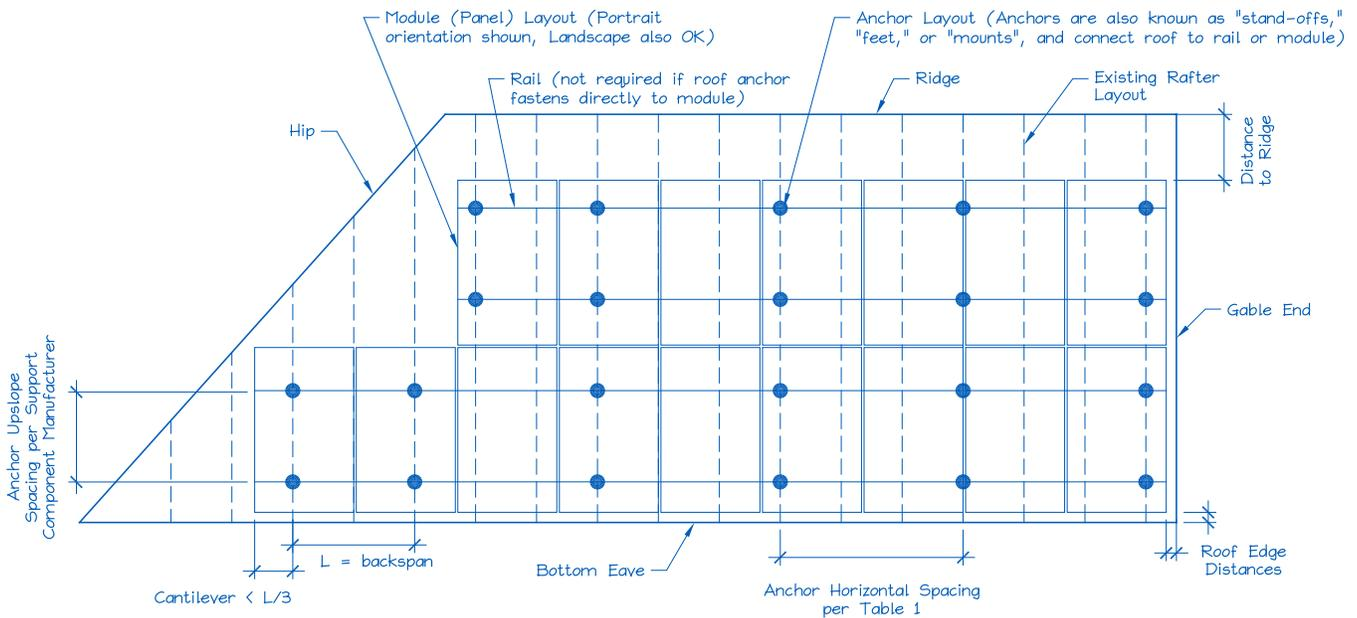

**Figure 1. Roof Visual Structural Review (Contractor's Site Audit) of Existing Conditions.**
- 3) Does the roof structure appear structurally sound, without signs of alterations or significant structural deterioration or sagging, as illustrated in Figure 1?  Y  N